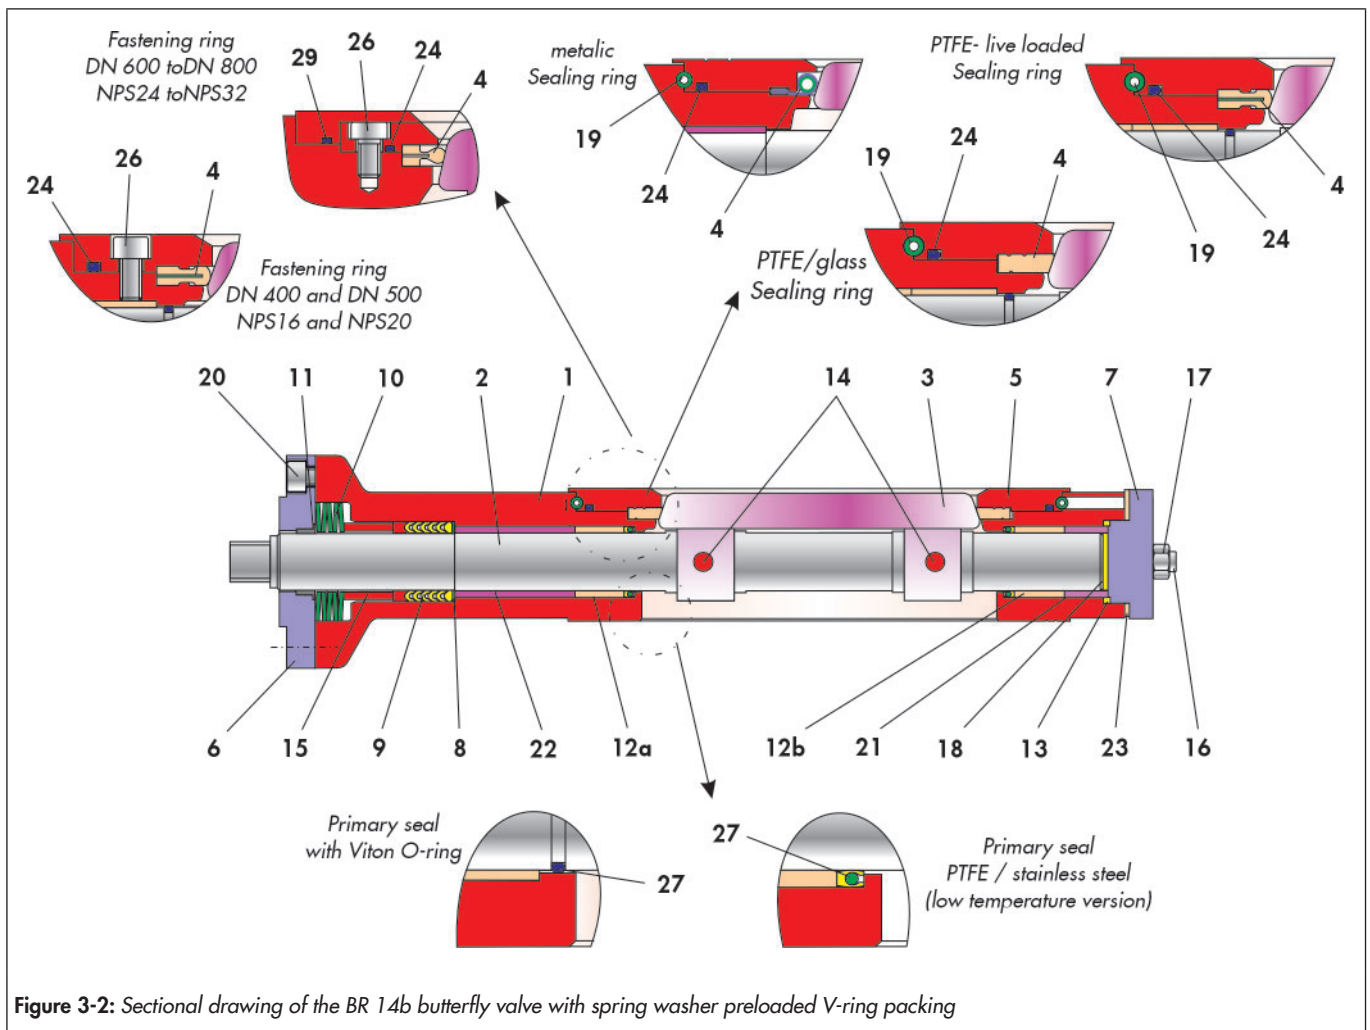

Figure 3-2: Sectional drawing of the BR 14b butterfly valve with spring washer preloaded V-ring packing
- ⇒ Insert the preassembled bonnet (7) into the bearing bore in the body (1) and adjust with the stud bolts (16).
- ⇒ Tighten the bonnet (7) with the nuts (17) evenly and in a criss-cross pattern.
- ⇒ Push the thrust washer (8) over the free shaft end into position in the valve body.
- ⇒ Push the PTFE V-ring packing (9) over the switching shaft into the body bore and press in with an assembly sleeve. Refer to the sectional drawing Figure 3-2 for the arrangement of the V-ring packing.
- ⇒ Push the thrust piece (15) over the switching valve and press it into position in the body.
- ⇒ Insert the set of spring washers (10). Refer to the sectional drawing Figure 3-2 for the arrangement of the spring washers.
- ⇒ Press the bearing bushing (11) into the stuffing box (6).
- ⇒ Fit the preassembled stuffing box (6) smoothly over the body flange and adjust with screws (20).
- ⇒ Tighten the screws (20) evenly in a criss-cross pattern.
- ⇒ Adjust the dihedral of the switching shaft parallel to the valve disc (3) and secure it against further twisting.